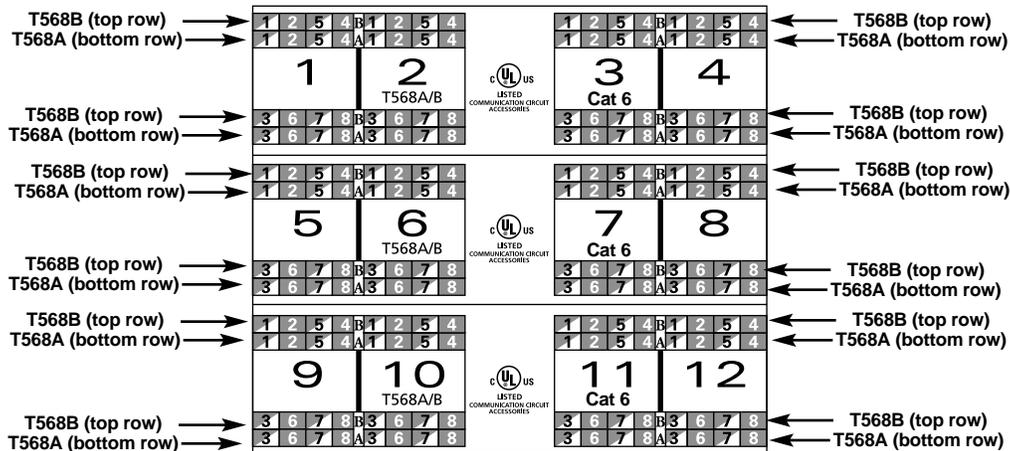

Figure 4. 12-port patch panel's T568B and T568A wiring sticker labels.
4. Place each wire in the appropriate position based on wiring color and label. See Figures 4 and 5.